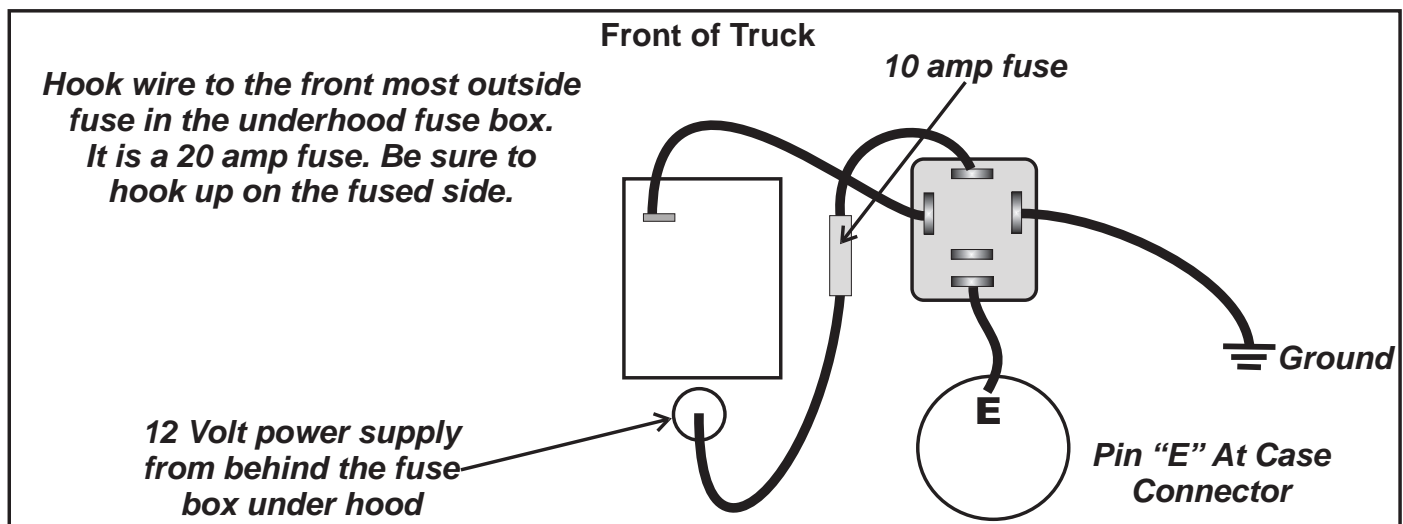

Figure 125
- When solenoid codes are stored due to a voltage drop at case connector terminal "E" caused by a faulty ignition switch, either replace the ignition switch or make the harness using a standard relay as seen in Figure 125 below to bypass the ignition switch and eliminate the codes. These codes are usually stored after engine startup. It is a good idea to put a function explanation tag on the harness.